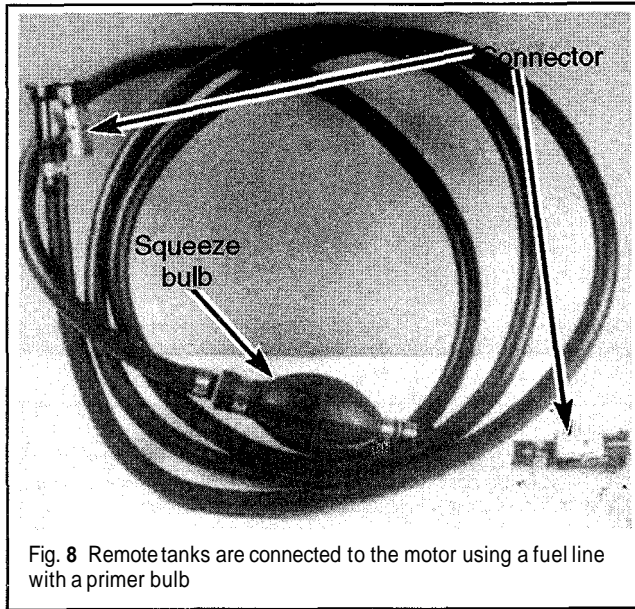

Fig. 8 Remote tanks are connected to the motor using a fuel line with a primer bulb
◆ See Figure 8
◆ See Figures 8, 14 and 15
- ◆ See Figures 8, 14 and 16